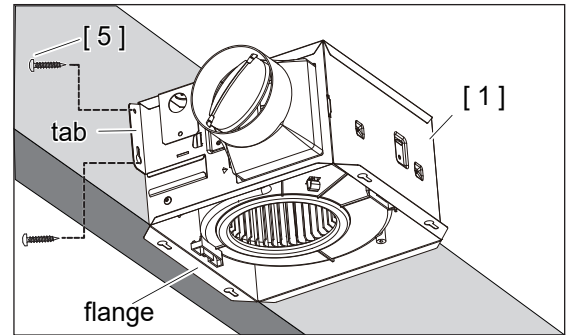

Fig 4
2. Secure the tabs with Long Screws [ 5 ] as figure shows. (Fig 4)